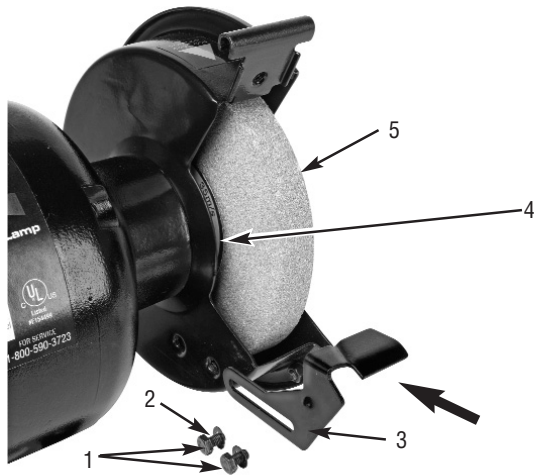

FIGURE 2. INSTALLING THE R/H TOOL REST
When installing the Tool Rests on the bench grinder, NOTE there is a Left Tool Rest and a Right Tool Rest. The tool rest shelf ALWAYS points away from the motor and the two different tool rests cannot be installed on the wrong side. See Figure 2.
1. Remove the two mounting bolts (1) and washers (2) from the parts bag.
2. Install the Tool Rests (3) to the wheel guards as shown in Figure 2.
3. Insert the mounting bolts and washers through the slotted hole at the bottom of the Tool Rest and reattach them to the grinding stone guard (4).
4. Position the Tool Rest no more than 1/8 in. away from the Grinding Stone (5).